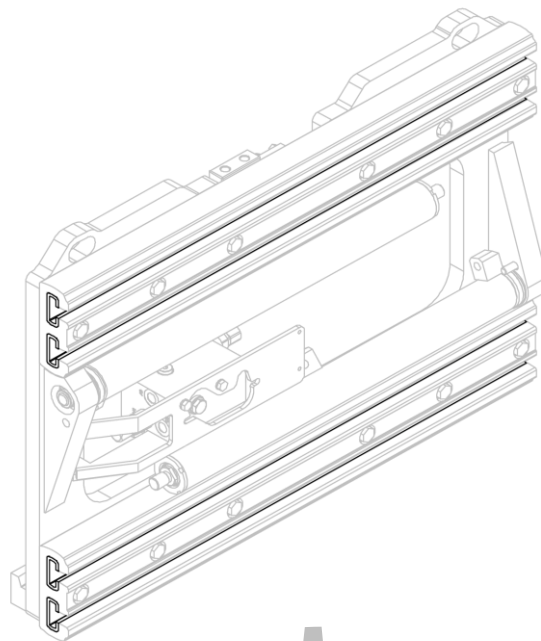
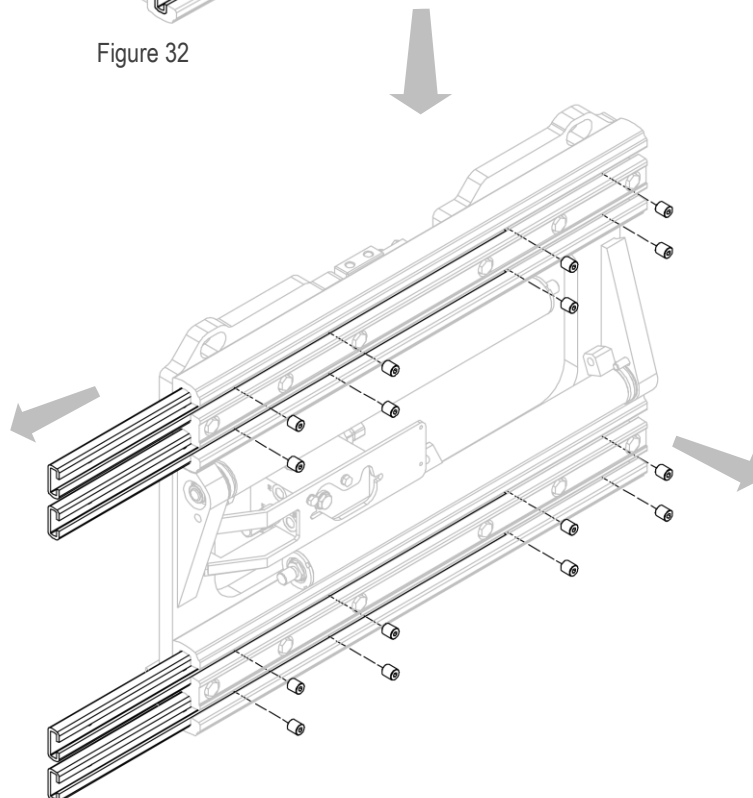

Figure 32
Figure 33
3. Remove the nylon bushes after unscrewing the corresponding grub screws (see *Figure 32* and *Figure 33*).